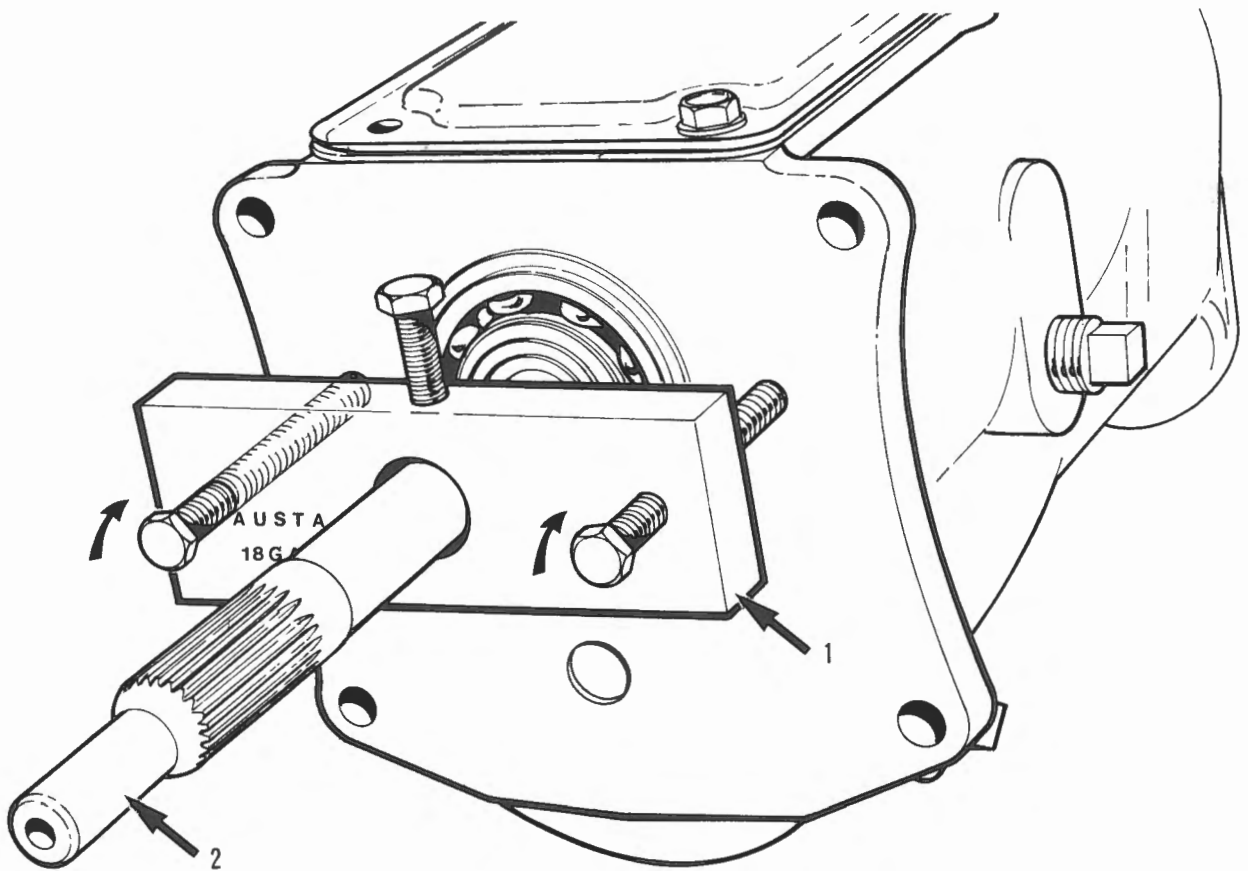

Fig. L-10
- 7 Withdraw the input shaft and bearing from the front of transmission, tool No. 18GA048, and remove third speed baulk ring. Fig. L-10.